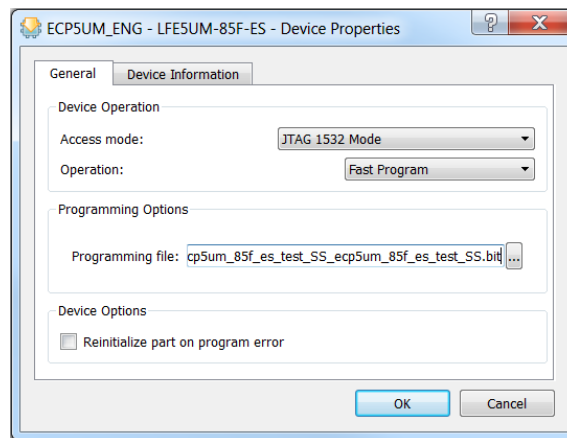

Figure 6.6. Programming Options
- Select the appropriate programming file by clicking the **Browse** button  in the **Programming Options** section as shown in Figure 6.6.